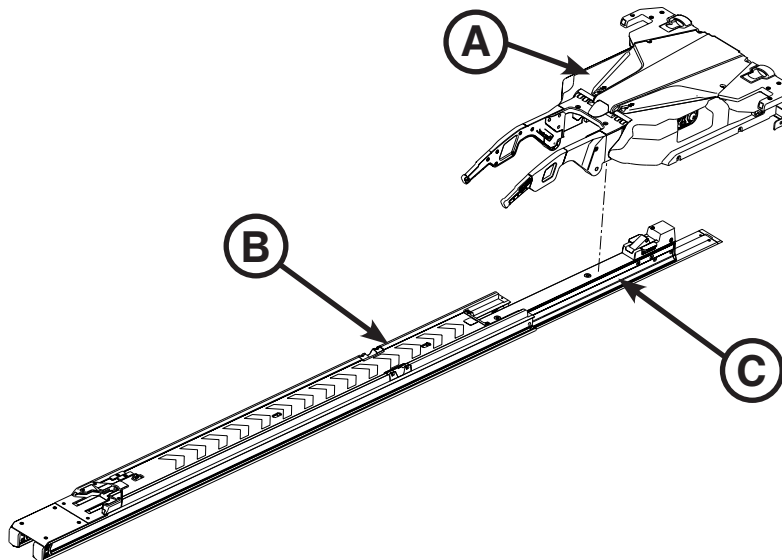

Figure 22: Position the Trolley Assembly
- Position the trolley assembly (A) between the transfer assembly (B) and head end of the anchor assembly (C) on the floor as shown in Figure 22.